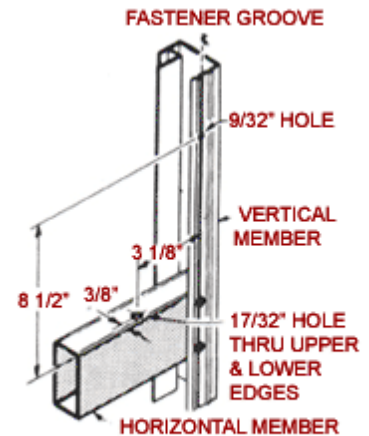

FIGURE 14
- 1.) Select a horizontal door member that is at a convenient height and drill one (1) $17/32$ " diameter hole as shown.
- 2.) Next drill one (1) $9/32$ " diameter hole in the vertical door member. (Refer to **Fig. 14** for hole location.)